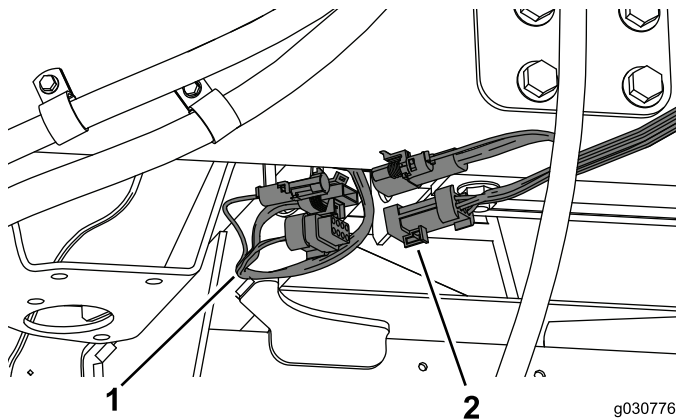

Figure 47
1. Connect the wire harness from the cab to the wire harness on the right side of the machine (Figure 47).